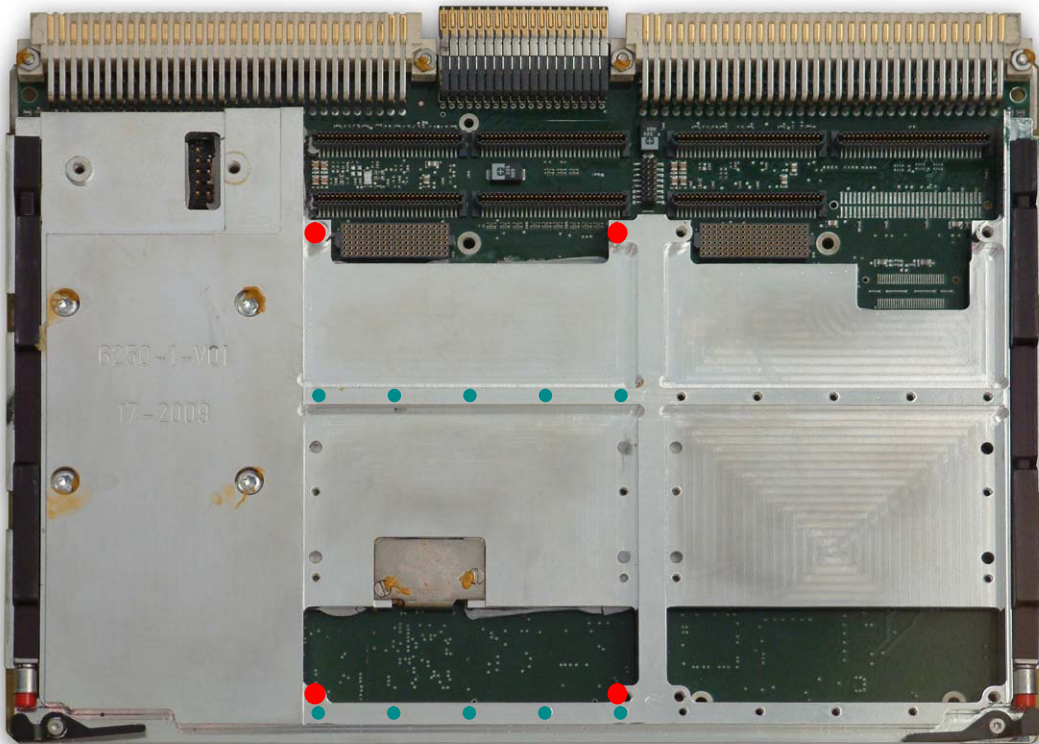

Figure 6: Standard Anchorage Points on VM6250/RC Board
3. Screw the XMC/PMC in place using mounting screws (5+2 at the front of the board, 5 in the middle of the board and 2 at the rear of the board). Tighten with a torque of 0.383 N.m. (3.389 Lb-In). Figure 6 shows the location of the standard anchorage points on an VM6250/RC board.